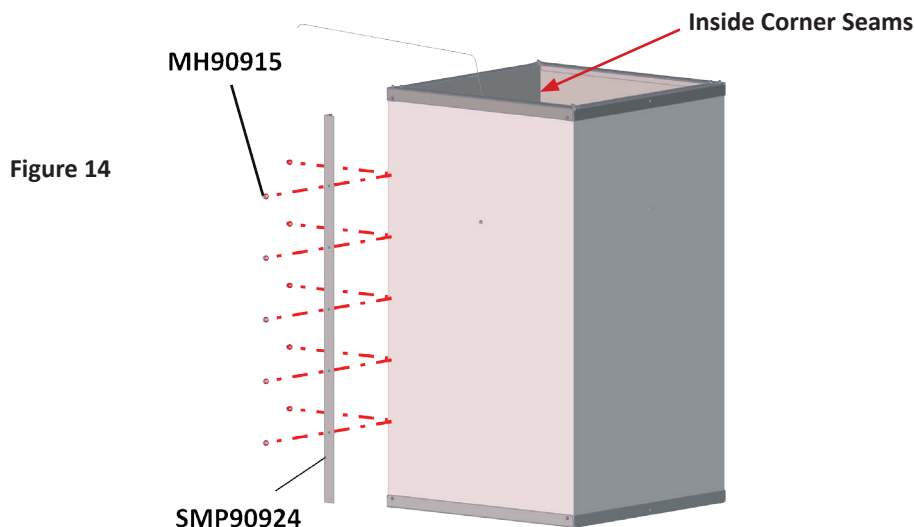

Figure 14
8. Hold the #SMP90924 Corner Channel (with pre-drilled holes) against the corner of the Chimney that was the open seam. Screw the Corner Channel to the outside of the insulated Flue using the #MH90915 Self Drilling Screws, as shown in Figure 14 below.